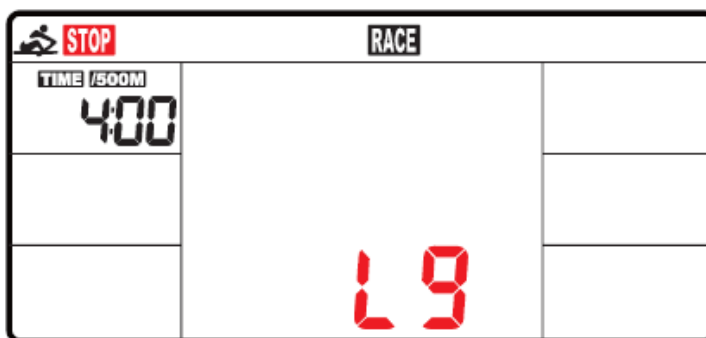

Fig. 5
2. **RACE (Fig.5):** Select RACE mode and L9 will flash. The TIME/500M will display 4:00. Then press UP or DOWN to select L1 ~ L15. Press ENTER to confirm. Then you can set the distance of the race (500M~10000M) while the value of DISTANCE is blinking. Press ENTER and the picture of the race will display on the screen. The TIME/500M of the programs are as follows: